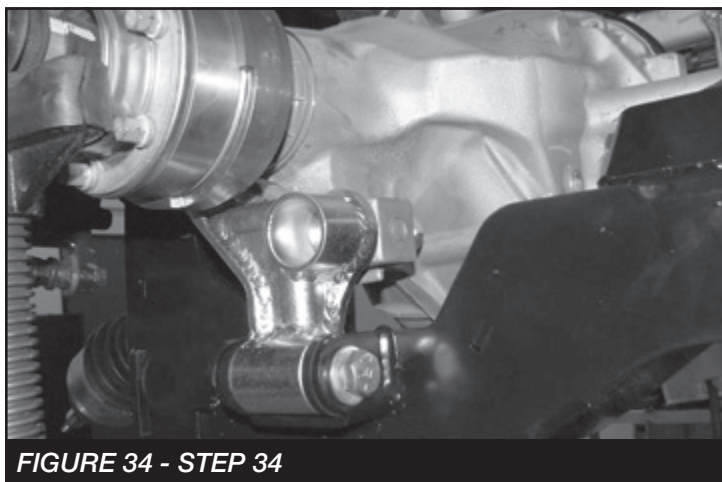

FIGURE 34 - STEP 34
34. Install a 1/2-13x2 bolt, washers and nut through the bracket and diff. Torque the bolt in the diff to 90 ft-lbs and the bolt in the crossmember to 90 ft-lbs. **SEE FIGURE 34**